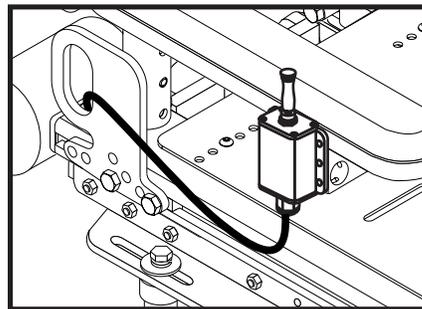

Figure 5. 2-way Multi-Position Toggle Operation
1. To tilt backward, pull the switch backward. See figure 5 or 6.